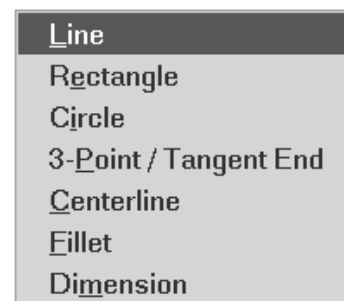

Figure 19 RMB pop-up menu in Sketcher
- hold down the right mouse button and select **Line** from the pop-up menu (Figure 19).